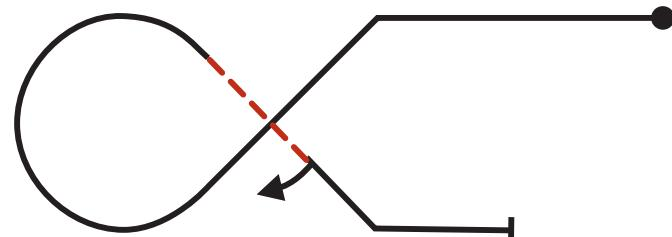

Figure 9
**FIGURE 9** is the goldfish. This figure has three separate and distinct parts, and each must be flown well to get a good score for the whole figure. First, the push for the first 45-degree downline needs to be nearly at the center of the box so the rest of the figure does not go out downwind. There is no requirement for the length of this line, but get plenty of airspeed for the looping portion to follow. New competitors will tend to go shallow as the airplane picks up speed. Push to the 45, and hold that sight picture until the pull for the loop. As in the Immelmann, having the box markers go under the bottom wing at the bottom of the loop should keep the plane in the box. Pull for the loop as in any looping figure, with a good brisk pull and hold the Gz on until well past the vertical. At the top, float the loop just like normal, then pull to set the second 45-degree downline. The airplane is slow at the top, so a good 1-2-3-4 count, then the half-roll, and a 1-2-3 count after toll should give a good start to getting the roll in the middle of the line. Hold the 45-degree line during the roll and keep the line straight after the roll. A brisk pull to level flight will end this figure.